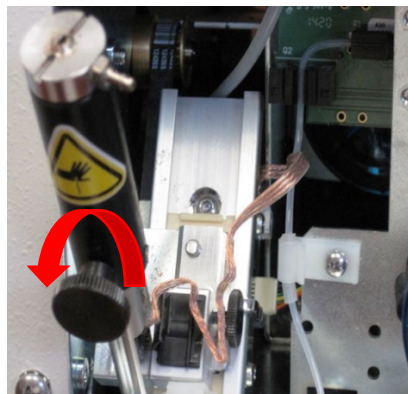

Figure 10
- 3.4. Remove the large Thumbscrew from the front of the Probe Tube. Figure 10